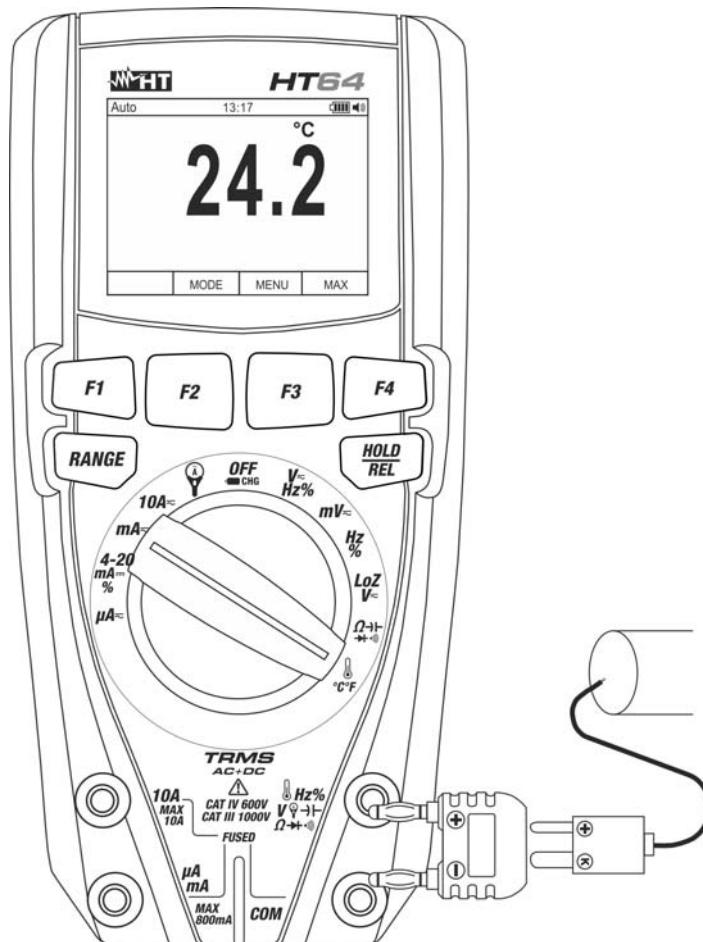

Fig. 29: Use of the instrument for Temperature measurement
3. Insert the provided adapter into input terminals Hz% (polarity +) and **COM** (polarity -) (see Fig. 29)